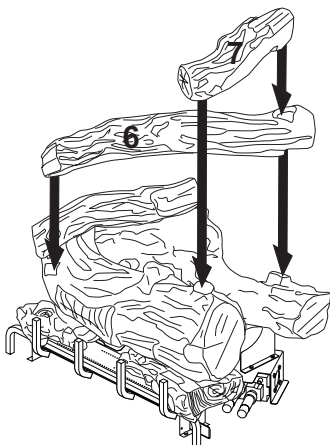

Figure 34 - Installing Logs #6 and #7
6. Place top middle log (#6) onto rear log (#1) and front log (#3). Match square peg on bottom of log #6 with square hole on log #4 and round hole on log #6 with peg on log #1 (see Figure 34, page 21).
7. Place top right log (#7) onto top middle log #6 and front log (#3) matching peg on bottom of top right log #7 with hole on top middle log #6 and hole in top right log #7 with peg on front log (#3) (see Figure 34, page 21).